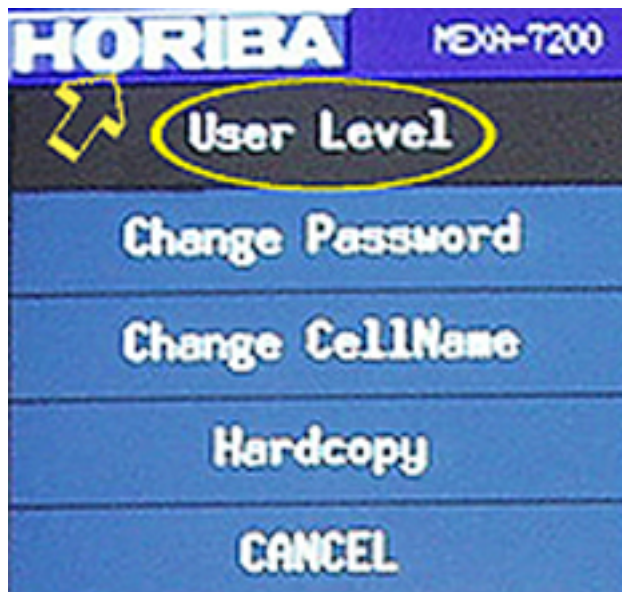

Figure 40
- 151 Click on "Horiba." See the arrow in Figure 40. "Click on User Level" See the circle in Figure 40. From the menu that results, click on "Normal."